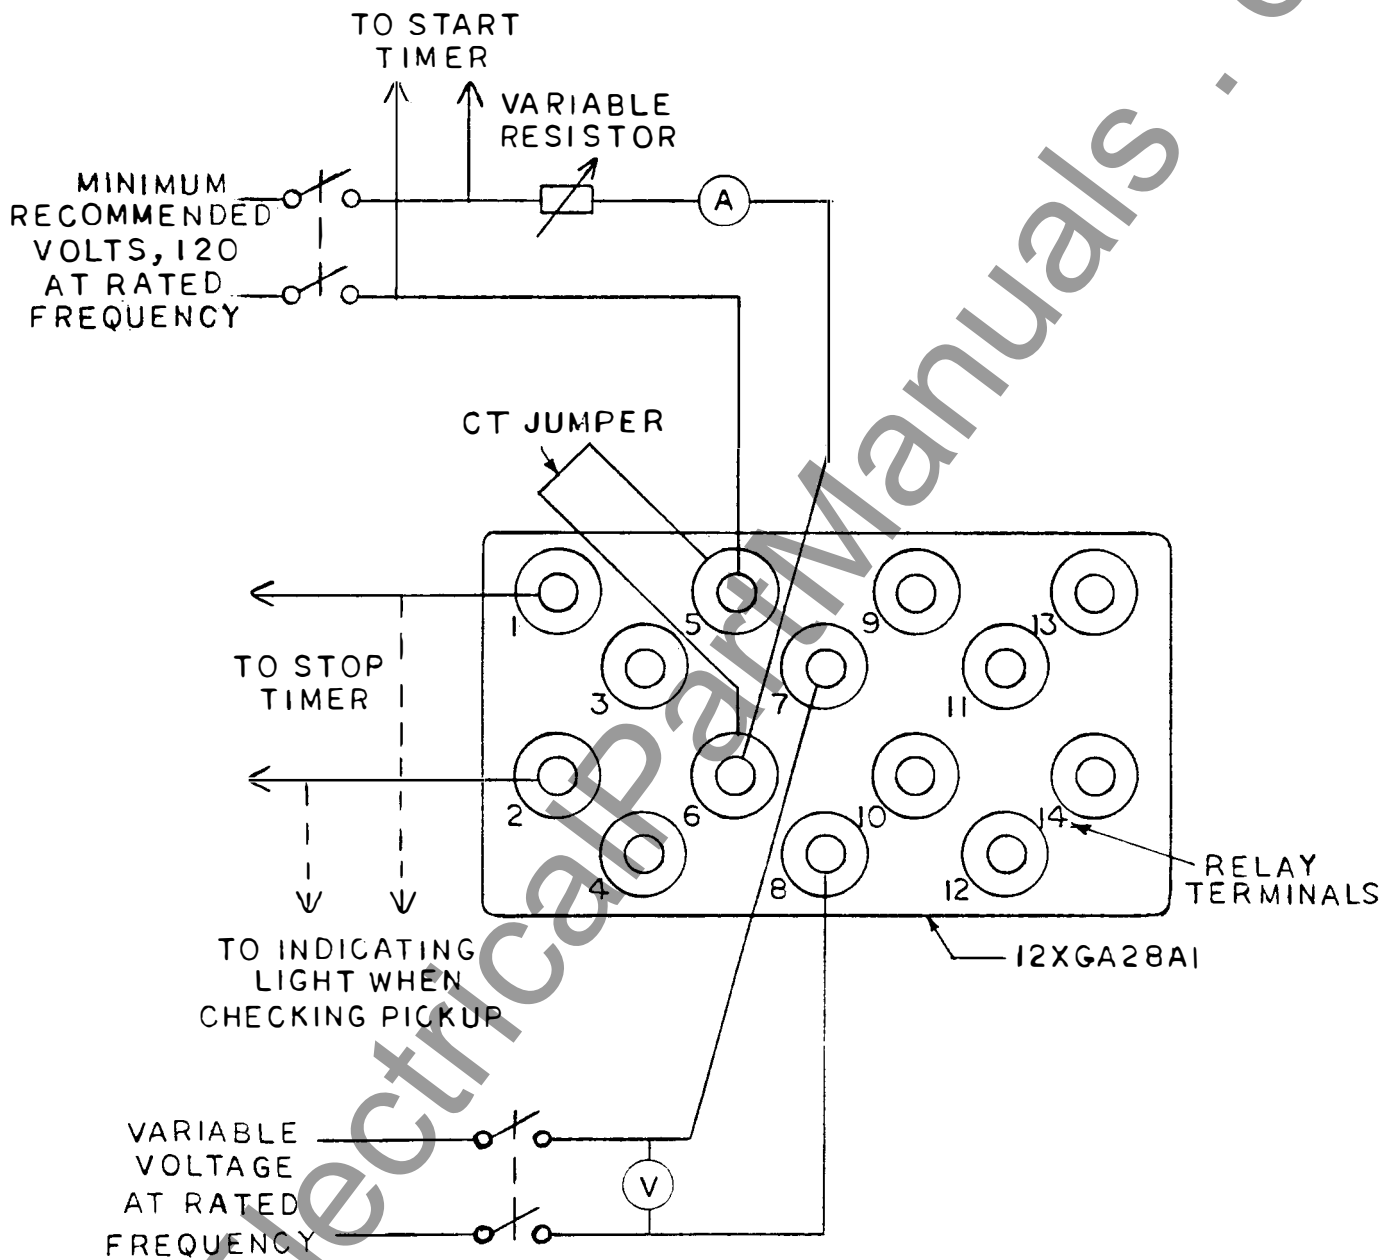

Figure 14 (0275A4455-0) Test Connections for Testing Pickup and Operating Times of the IFCV Relay Induction Unit
Connect the operating coil terminals to a source of the proper frequency and good waveform having a voltage of 110 or more, with resistance load boxes for setting the current. See Test Circuit, Figure 14.
2. Connect the relay as shown in Figure 14.